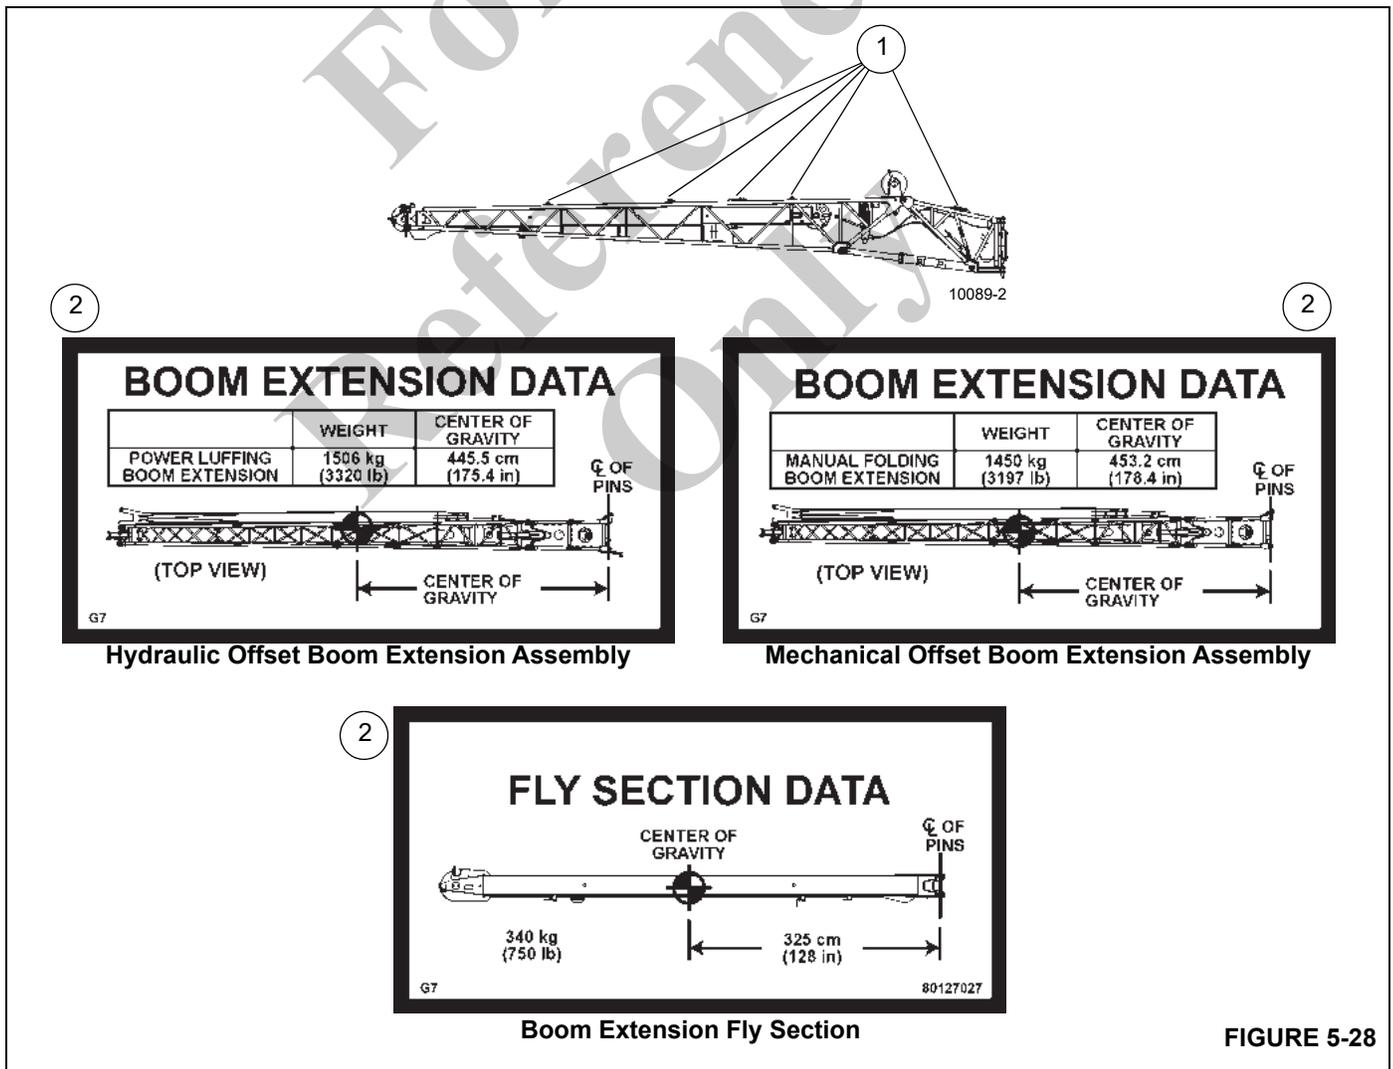

FIGURE 5-28
The boom extension base section features five attaching points on each side (10 total) (1, Figure 5-28). The Transportation and Lifting decal (2) shows the center of gravity information for the boom extension assembly and the boom extension weight. Use the Transportation and Lifting decal to determine which attaching points to use.